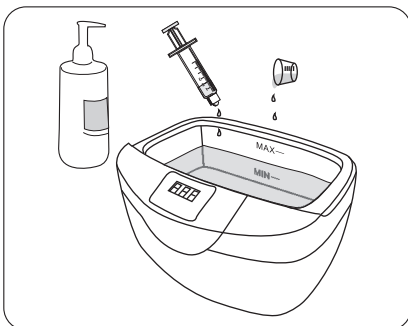

Fig. 11
- 4► Add the right amount of enzymatic detergent in the vat or beaker, diluting it according to the recommendations specified by its manufacturer. We suggest, for your convenience that you use a small medicine measuring cup or syringe without the needle to measure the volume of detergent, make sure to reserve this syringe for this purpose only in case the detergent doesn't have its own measurer (Fig. 11). Do not use anti-crust solutions/products, they have a highly acid concentration, that may damage the vat, its sealing and the instruments.